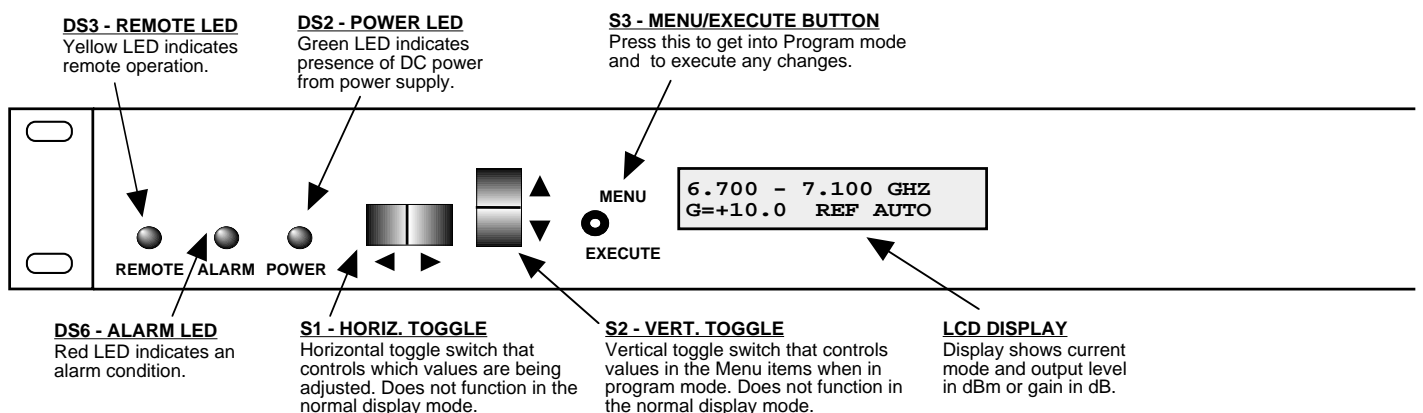

FIGURE 2.2 3115-6771 Front Panel Controls and Indicators
Figure 2.2 shows the front panel controls and indicators.
5. Be sure DS2 (green, DC Power) is on and DS6 (red, Alarm) is off (Figure 2.2).
Alarm indications appear on the LEDs (see Figure 2.2).